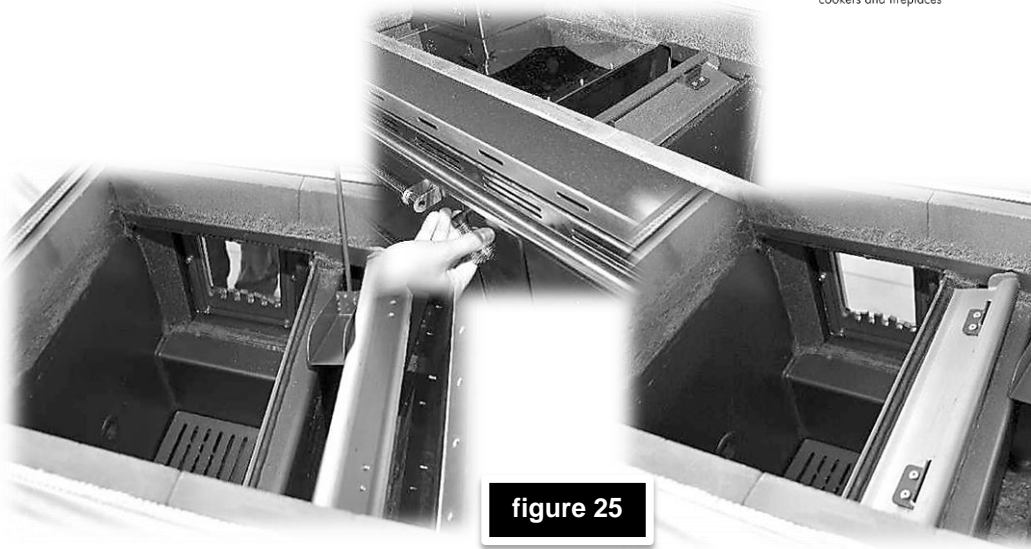

figure 25
While **cleaning the top side of the cooker** (*figure 25*), it is necessary to remove the cooking plate (1) and thoroughly clean the soot from the boiler, around the oven and flue gas deflector, including the chimney outlet opening (16).